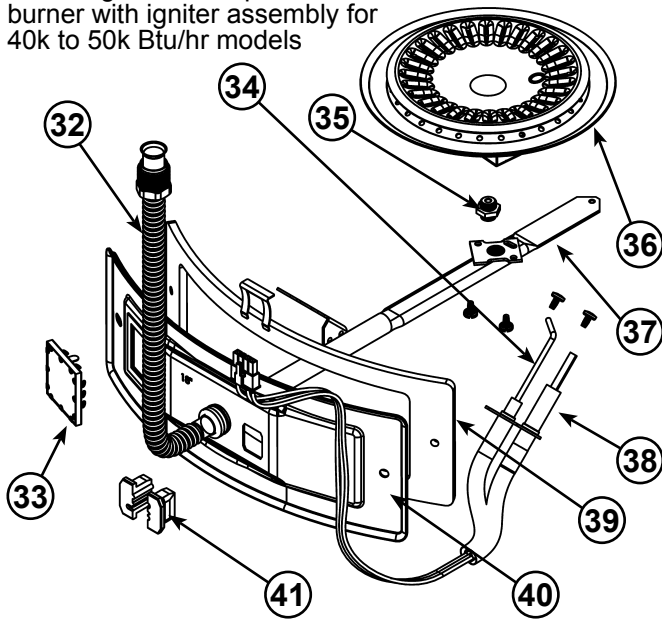
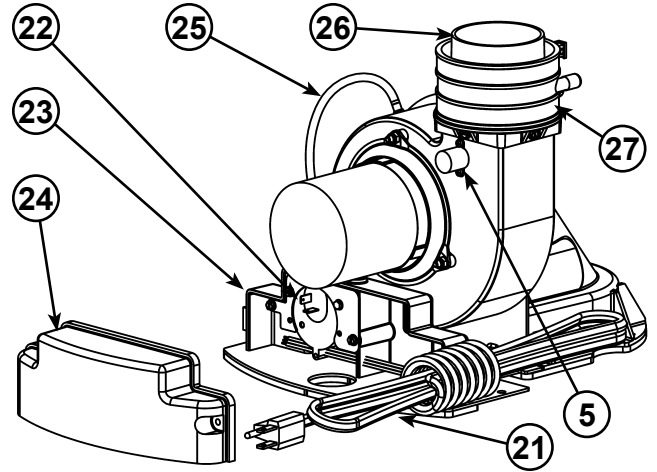

Figure 3
Figure 6
| 1. Vent Termination Elbow with Rodent Screen | 18. **Combo Heating System Return Inlet (Optional) | 34. Flame Sensor Rod (see Figures 3 & 4) |
| 2. *Vent Pipe | 19. Air Inlet Snorkel | 35. Gas Orifice (see Figures 3 & 4) |
| 3. *Vent Pipe Coupling (if required) | 20. **Combo Heating System Supply Outlet (Optional) | 36. Sheet Metal Burner (see Figures 3 & 4) |
| 4. *Vent Pipe Elbow (long radius) | 21. Blower with Power Cord (see also Figure 6) | 37. Gas Manifold (see Figures 3 & 4) |
| 5. Blower High Limit Switch (see Figure 6) | 22. Air Switch (inside box) (see Figure 6) | 38. Hot-Surface Igniter (see Figures 3 & 4) |
| 6. T&P Valve | 23. Junction Box (see Figure 6) | 39. Manifold Door Gasket (see Figures 3 & 4) |
| 7. Cold-Water Inlet Nipple/Diptube | 24. Junction Box Cover (see Figure 6) | 40. Manifold Door (see Figures 3 & 4) |
| 8. Baffle Assembly | 25. Air Tubing (see Figure 6) | 41. Two Piece Grommet With Clip (see Figures 3 & 4) |
| 9. * Discharge Pipe | 26. Rubber Coupling (see also Figure 6) | 42. *Inlet Water Shut-off Valve |
| 10. Gas Control Valve/Thermostat (Honeywell) | 27. Gear Clamp (see also Figure 6) | 43. *Gas Supply* |
| 14. Manifold Door Assembly (behind outer door) (see Figures 3 & 4) | 31. ***Control Harness | 47. *Union (water connection) |
| 15. *Floor Drain | 32. Flexible Manifold Tube (see Figures 3 & 4) | 48. Rating Plate |
| 16. *Metal Drain Pan | 33. Viewport (see Figures 3 & 4) | 49. *Thermal Expansion Tank (required for all closed systems) |
This device is located on the blower (see Figure 6, item 5) and limits the maximum temperature of the blower. If the blower temperature rises above the temperature setting, the switch opens causing the heater to shut down. The switch will auto reset once the temperature drops sufficiently.
This device, located in the junction box, monitors the air pressure produced by the blower. In the event that the exhaust venting becomes blocked or sufficiently restricted, the switch will shut the heater down (see Figure 6, item 22).